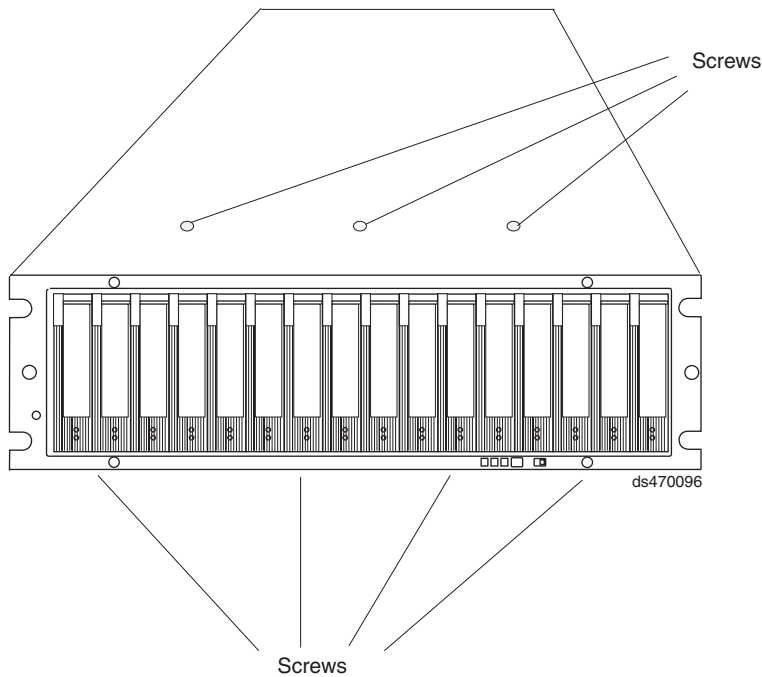

Figure 65. Screws holding the top and bottom sides of the chassis to the cage frame
shown in Figure 65. Remove the seven Phillips screws using the #1 Phillips screw driver. Save these screws.
19. Install the seven Phillips screws (three on top and four on bottom) that hold the front cage frame to the EXP810 chassis that you removed in step 14 on page 129, as shown in Figure 65.